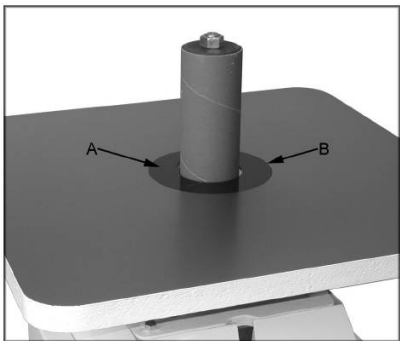

Fig 2
Install the table insert (A, Fig2) which most closest fits the sanding sleeve. Line up the notch in the insert with the pin in the table (B)